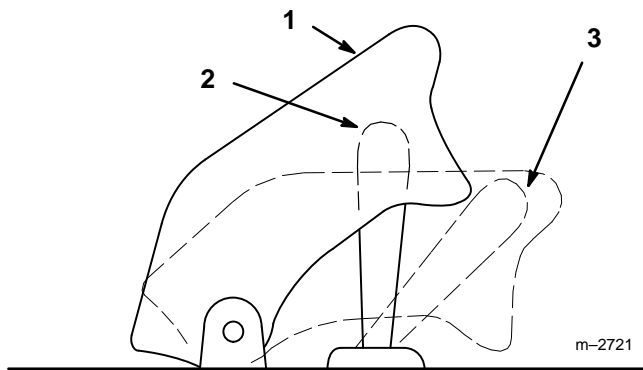

Figure 6
2. Raise the cover and move the power take off (PTO) switch to the “ON” position to engage (Fig. 6).
2. Lower the cover of the power take off (PTO) switch. This moves the switch to the “OFF” position to disengage (Fig. 6).